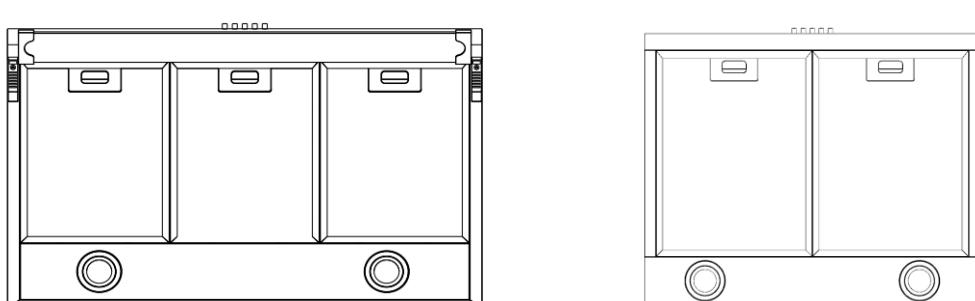

Figure 8
2. Soot filters for cleaning, Fig. 8: